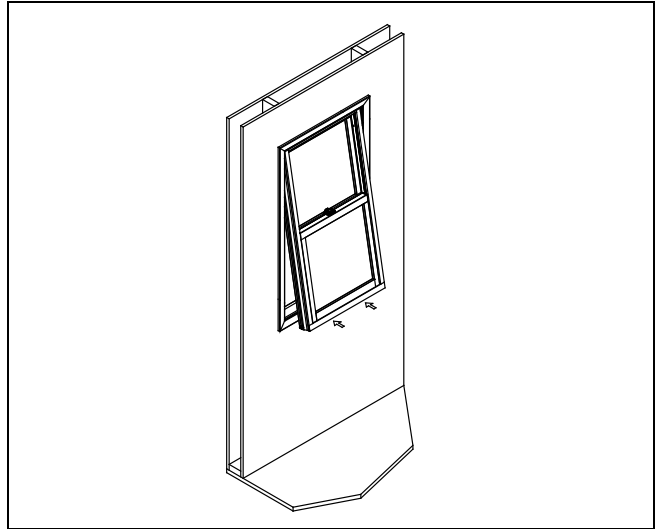

Figure 10 Interior installation shown but shim locations also apply to exterior installation as well.
4. If necessary place shims under sill of unit to level. Level unit horizontally from jamb to jamb at sill of unit. See figure 10.